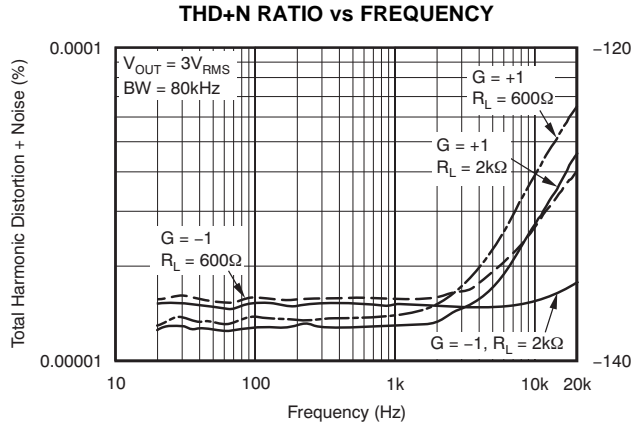
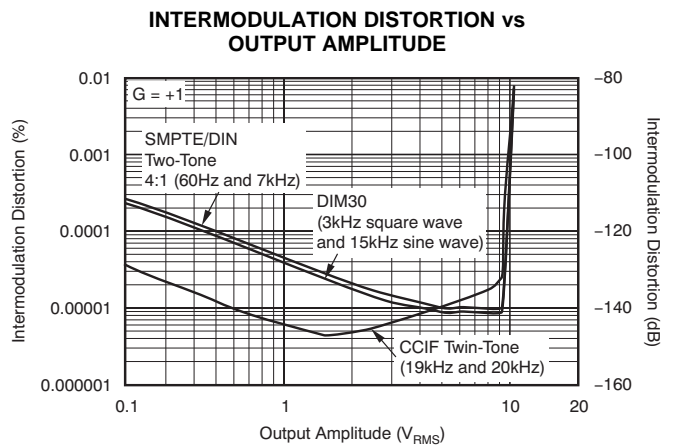

Figure 7.
Figure 12.
The OPA161x series op amps have excellent distortion characteristics. THD + Noise is below 0.00008% ( $G = +1$ ,  $V_O = 3V_{RMS}$ ,  $BW = 80kHz$ ) throughout the audio frequency range, 20Hz to 20kHz, with a 2k $\Omega$  load (see Figure 7 for characteristic performance).
(1) For measurement bandwidth, see Figure 7 through Figure 12.